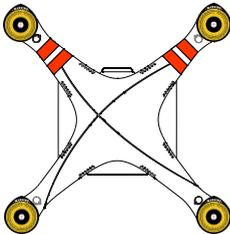

Figure 2-1
1. ( Figure 2-1 ) Remove the four warning cards from the motors after you've read them.